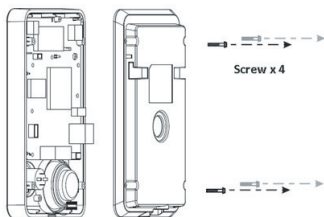

Figure 5
- B. With Phillips screwdriver, unpack the Back Panel and the main part of intercom as shown in Figure 5.